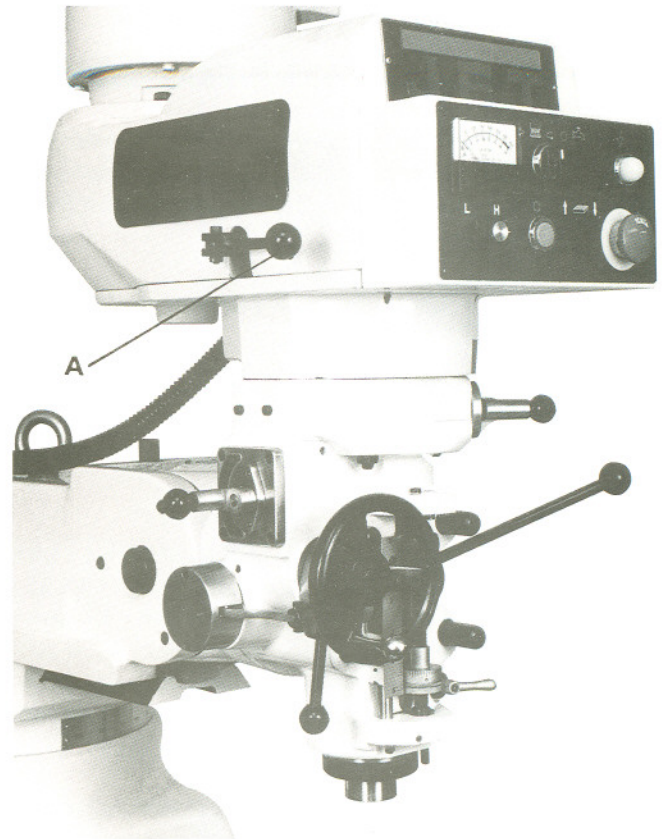

Fig.4
- A. **Spindle Brake** (A, Fig. 4) - located on left side of the head. Move in either direction to stop spindle once power has been turned off.